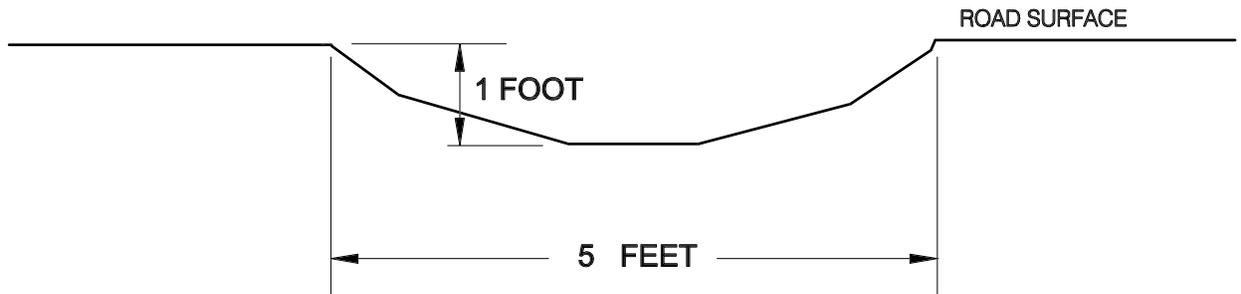

FIGURE 7
43. Water Bars on Crown Land (refer to Figure 7)